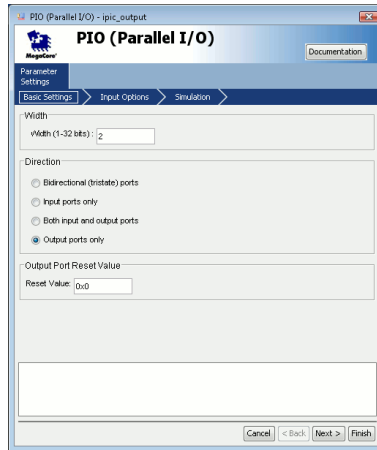

Figure 1.5: Output part of the Interprocessor Interrupt. The Figure shows the Avalon PIO output settings.
17. Add an Avalon PIO named `ipic_output`. The output PIO should have an output bit for each CPU in the system. A screenshot of the PIO dialog box can be found in Figure 1.5. This PIO will be used by the two CPUs to send interprocessor interrupts. Connect the PIO to the data master of both CPUs.